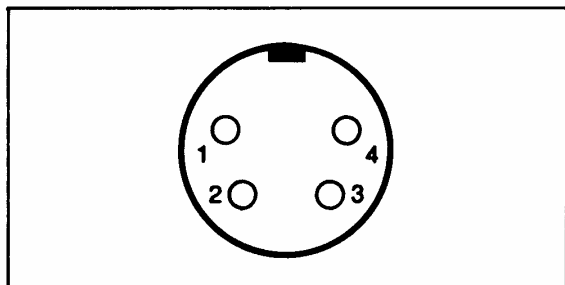

Figure 8-4. Detector PIN orientation.
- d. Connect the digital multimeter between pins 1 and 2 of the detector connector (Figure 8-4).